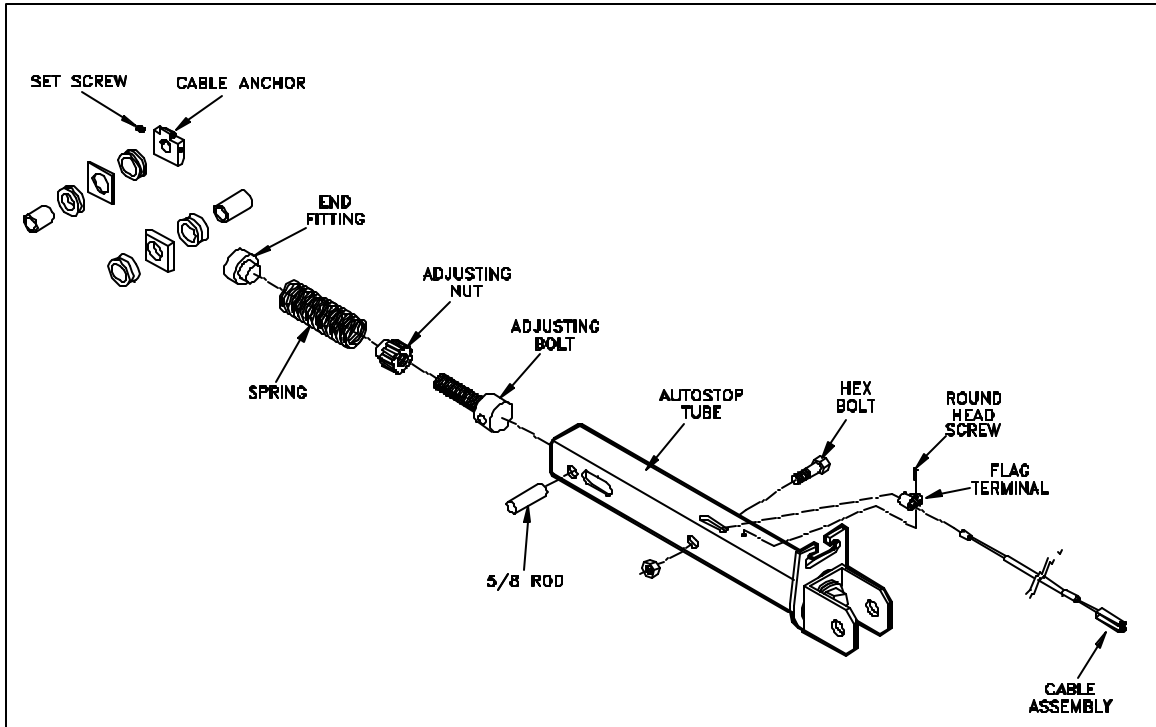

Figure 9
1. Remove the AutoStop from the receiver hitch. Remove the hex bolt. (Figure 9)